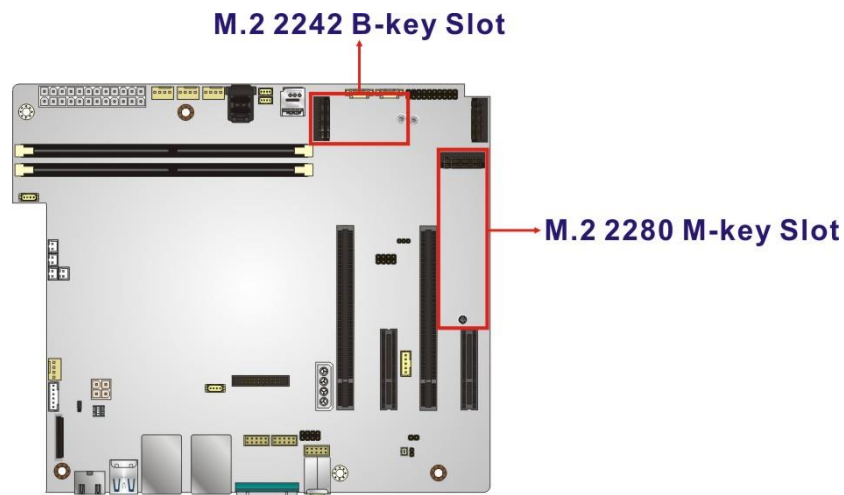

Figure 3-8: M.2 Slot Locations
Step 2: Locate the M.2 slot as shown in Figure 3-8.